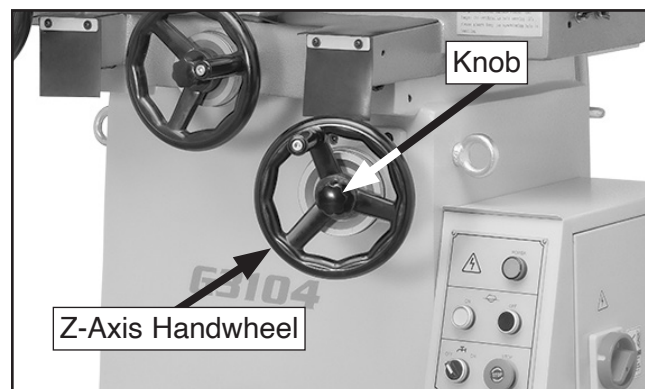

Figure 27. Z-axis handwheel installed.
2. Install Z-axis handwheel and knob on Z-axis leadscrew (see **Figure 27**).